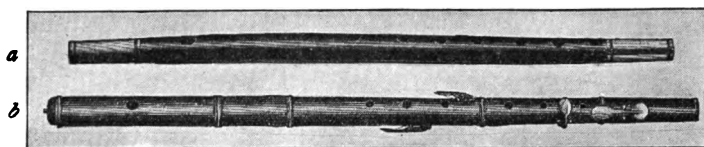

FIG. 154.—(a) FIFE, (b) FLUTE
**184. Air Jet Instruments.** As representative of this type of instrument, we have the common whistle and certain pipes of the organ. In these (Fig. 153) the air passing through the tube *t* of the mouthpiece is broken up and set into a fluttering condition when it strikes the edge of the lip *L*. The air column in *r* resounds to its own vibration frequency and a note results. The pitch of this is determined by the length of the air column. In the flute and fife (Fig. 154) air from the lungs is directed by the lips of the player across an opening. The edges of the hole break up this air stream, as in the case of the